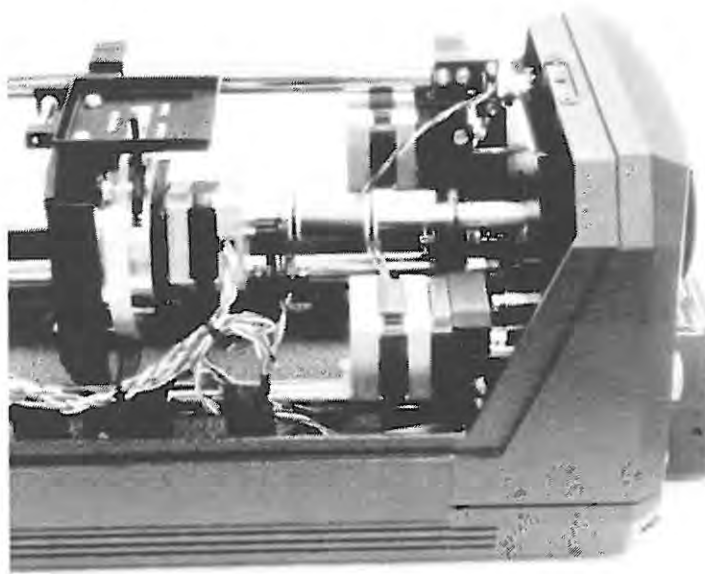

Figure 8-4. Laser Head Before Etalon Oven Bracket Installed
6. Carefully ease the rear bellows dust shield forward toward the aperture motor and onto the rear aperture seal tube (Figure 8-4). Try not to disturb the aperture wheel orientation.
15. Carefully ease the rear bellows dust shield forward toward the aperture motor and onto the rear aperture seal tube (Figure 8-4). Try not to disturb the aperture wheel orientation.